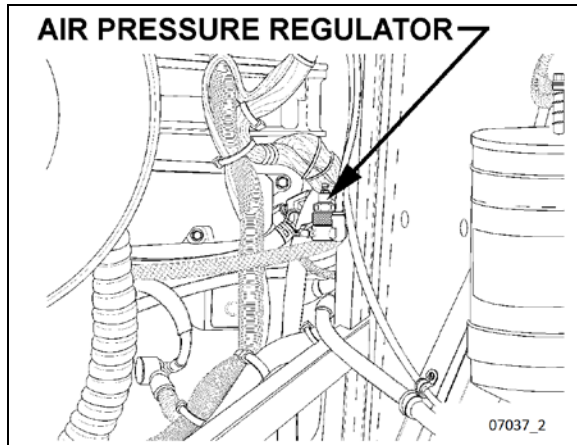

FIGURE 14: AIR PRESSURE REGULATOR (TYPICAL)
- Adjust the retarder pressure to  $80 \pm 3$  psi with the air pressure regulator. For more information refer to Section 12, "BRAKE AND AIR SYSTEM", under heading "AIR PRESSURE REGULATOR". The air pressure regulator is located at back of engine compartment, on R.H. side (Figure 14) or in the R.H. side rear service compartment.